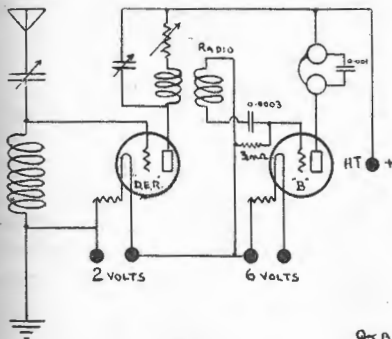

Fig. 1.
(2) A circuit for a D.E.F. and Expense B Valve is given herewith, Figure 1.